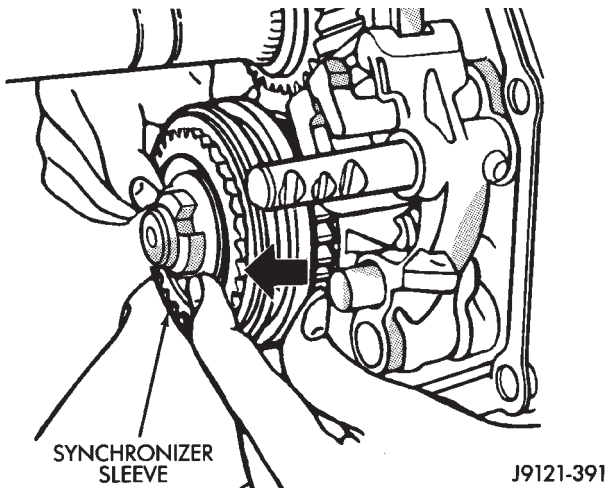

Fig. 79 Locking Fifth Synchronizer
(15) Shift fifth gear synchronizer sleeve rearward to lock it (Fig. 79).